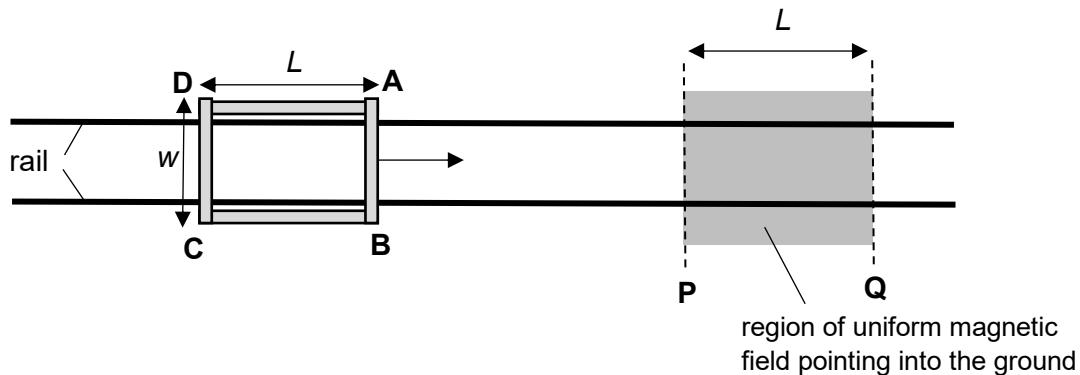

Fig 6.1
- 6 (a) The plan view (from top down) of a train braking system is illustrated in Fig 6.1. The train carriage of mass  $m$  is mounted on a rectangular metal frame ABCD of length  $L$  and width  $w$ , the effective resistance of the frame is  $R$ . The train carriage is initially moving at a constant speed along the rails.